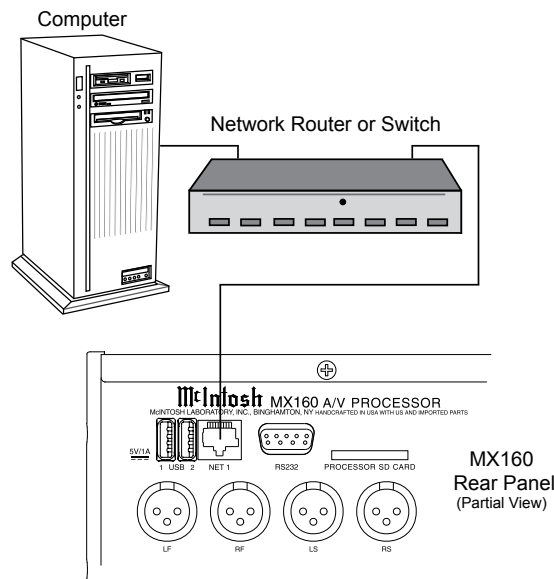

Figure 70
1. An Ethernet Connection between the MX160 NET 1 (using a CAT5, CAT5E or CAT6 cable) to a Computer Network. Refer to figure 70.